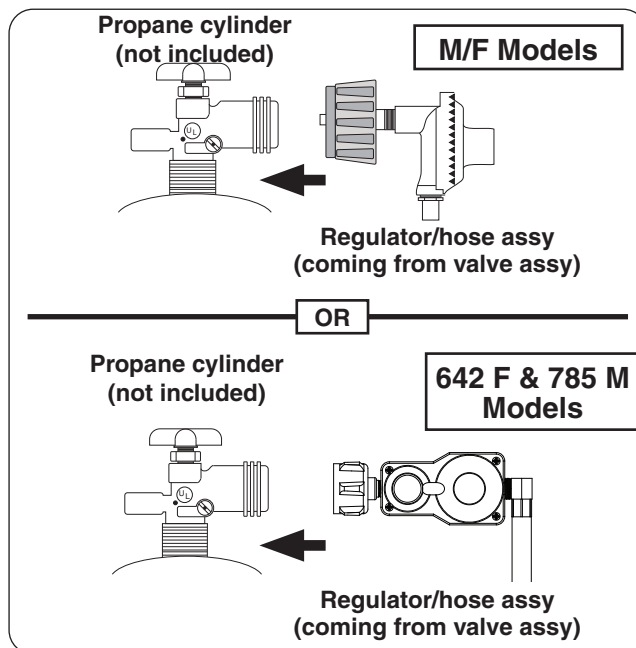

Fig. 32-1 Connecting to an L.P. cylinder
2. Attach the regulator end of the hose assembly to a propane cylinder (not included) and tighten (see Fig. 32-1).